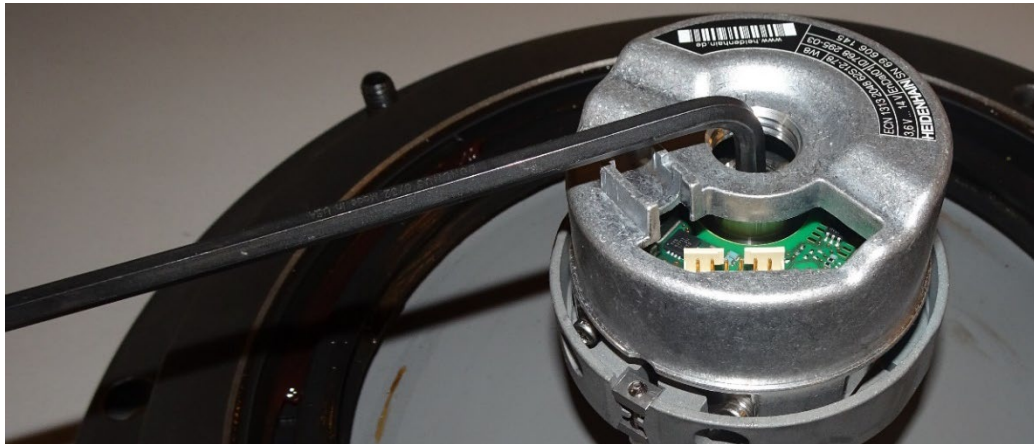

Figure 21
10. Loosen the bolt M5 inside by hex wrench (4mm) 2~3 turns only. Do not remove this bolt yet (**M5 bolt must remain in the encoder so the M10 bolt can push against it**). See Figure 21.